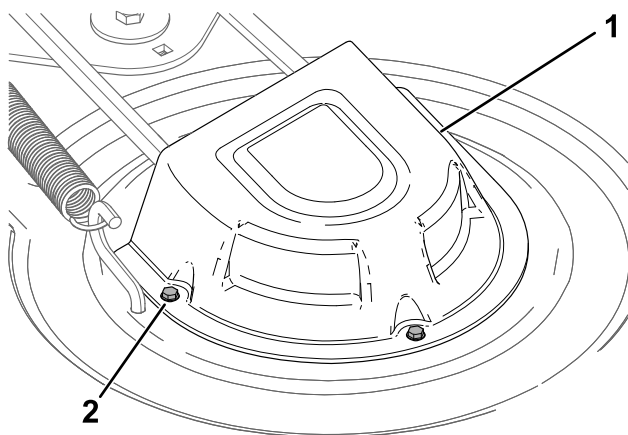

Figure 54
5. Loosen the screws and remove the pulley covers (Figure 54).